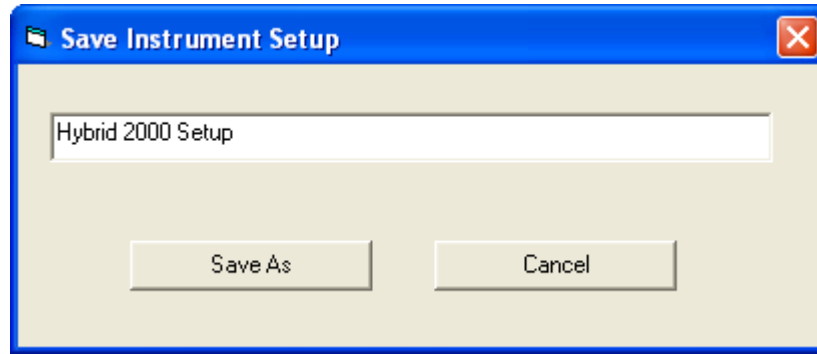

Figure 34 Save Instrument Setup Dialog Box
1. **Error! Reference source not found.** Click on Hybrid 2000, as shown in Figure 34.
5. Save the setup by clicking the **Save** button and filling in a name, as in Figure 34.